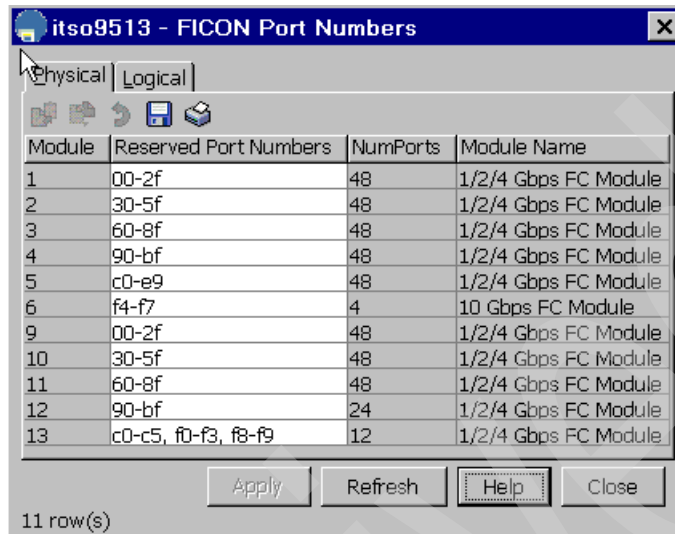

Figure 6 Reserving FICON port numbers
2. Enter the chassis slot port numbers in the Reserved Port Numbers field (if so desired), click **Apply**, click **Close** (Figure 6).